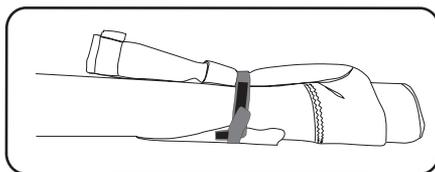

Figure 10: After rolling, tuck the pad, then wrap with the tack strap and secure the velcro.
- After rolling the sail, tuck the pad so it rests along the sail, wrap the tack strap around the pad and the sail, and then attach the velcro (figure 10).